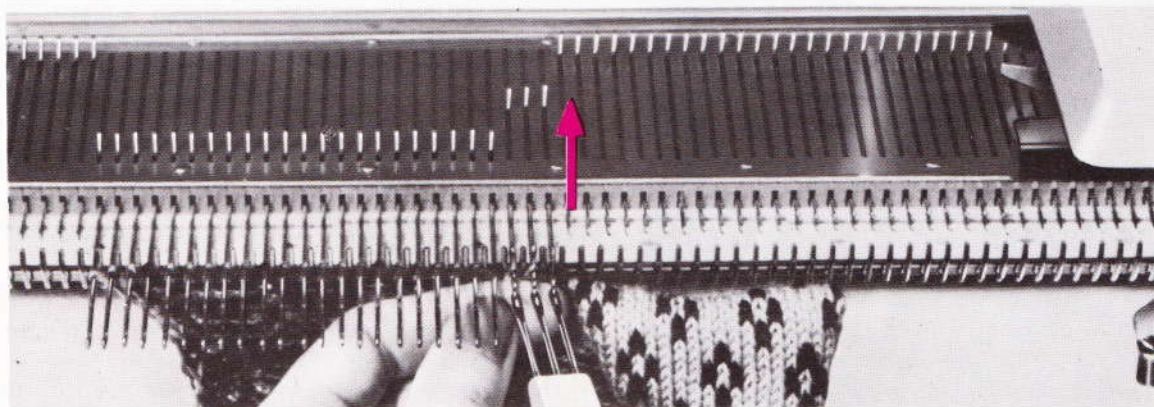

Fig. 165
7. — Using the 3-stitch transfer tool bring back the needles in F position back to B position by hand (fig. 165).
8. — Using the 3-stitch transfer tool, bring the needles in F position back to B position (see fig. 165, page 51).